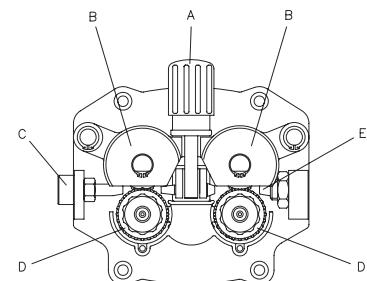

FIG. 9
- Loosen and lower the plastic knob (A) (Fig. 9). Open the pressure arm (B) of the feeder. Extract the wire from the torch liner (E).
- When the wire is disconnected, grasp it with pliers so that it cannot exit from the spool. If necessary, straighten it before inserting it in the wire input guide (C). Insert the wire on the lower roll (D) and in the torch liner (E).
- Open the side panel. Loosen and lower the plastic knob (A) and release the pressure arm (B) (Fig. 9). Cut the wire (in the case it is installed) grasp it with pliers so that it cannot exit from the spool and fix it on the suitable hole in the reel. Remove the nozzle and contact tip. Remove with pliers the wire from the hose and torch assembly.